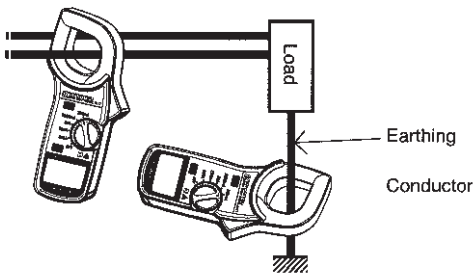

Fig.3
- (1) Set the Range Switch to the desired “A” or “mA” position.
- (2) Select the desired frequency response, WIDO or 50/60 Hz, with the Frequency Selector Switch. (see section 6-2 for Frequency Selector Switch)
- (3) Press the Trigger to open the Transformer Jaws and clamp onto conductor or conductors as shown in Fig.3. Take the reading on the a display . (This method also permits measurements of leakage current flowing through earthing conductors and very small current.)